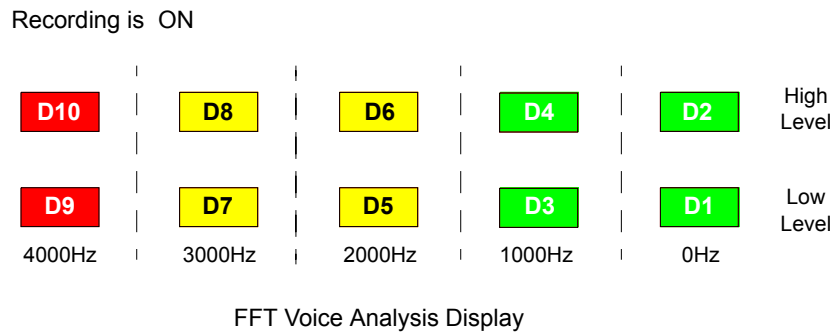

Figure 2-2. Voice Recorder Demo LED Usage
- The first row of five LEDs (D1, D3, D5, D7, and D9) will turn "ON" and "OFF", showing the frequency spectrum of the incoming signal.; see Figure 2-2